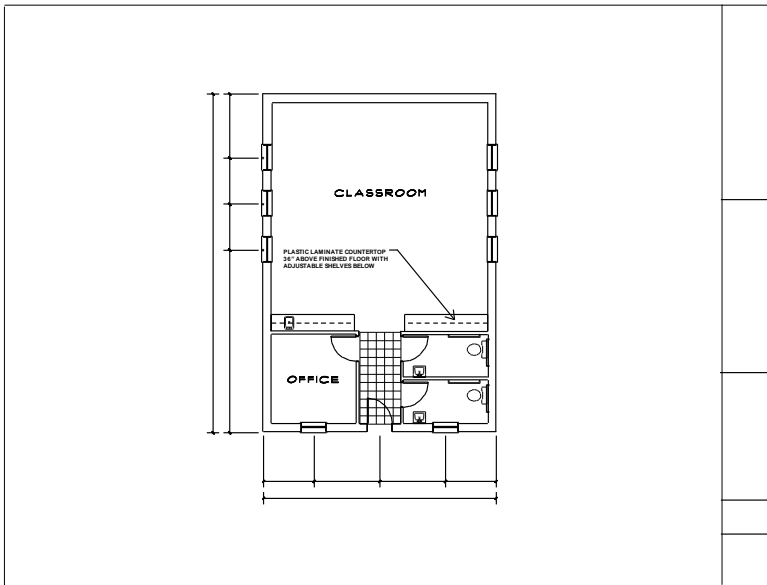

Figure 4.31: The drawing with title block
23. Press (O) to toggle ortho mode on.
24. Move the cursor upwards and click to place the line in a few distinct locations to section off the title block, as in Figure 4.31.